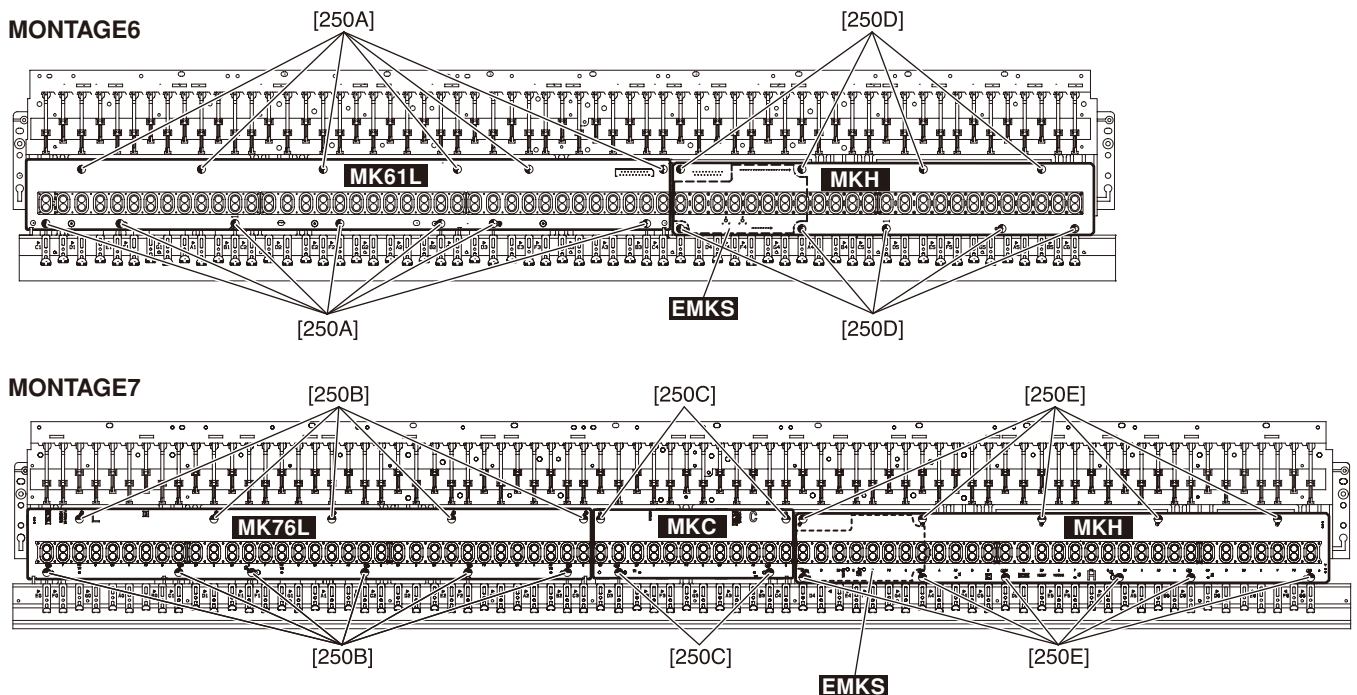

Fig. 20 (図 20)
21-2-4. Remove the thirteen (13) screws marked [250A] and disconnect the connector from the underside of the keyboard unit. The MK61L circuit board can then be removed. (Fig. 20, Photo 8)
21-2-4. [250A] のネジ 13 本を外し、鍵盤裏側からコネクタを外して、MK61L シートを外します。(図 20、写真 8)
- 21-3-4. Remove the eleven (11) screws marked [250B] and disconnect the connector from the underside of the keyboard unit. The MK76L circuit board can then be removed. (Fig. 20, Photo 9)
- 21-4-4. Remove the four (4) screws marked [250C] and disconnect the connector from the underside of the keyboard. The MKC circuit board can then be removed. (Fig. 20, Photo 9)
- 21-3-4. [250B] のネジ 11 本を外し、鍵盤裏側からコネクタを外して、MK76Lシートを外します。(図 20、写真 9)
- 21-4-4. [250C] のネジ 4 本を外し、鍵盤裏側からコネクタを外して、MKCシートを外します。(図 20、写真 9)
Remove the nine (9) screws marked [250D] and disconnect the connectors from the underside of the keyboard. The MKH circuit board can then be removed. (Fig. 20, Photo 8)
Remove the eleven (11) screws marked [250E] and disconnect the connector from the underside of the keyboard. The MKH circuit board can then be removed. (Fig. 20, Photo 9)
[250D] のネジ 9 本を外し、鍵盤裏側からコネクタを外して、MKH シートを外します。(図 20、写真 8)
[250E] のネジ 11 本を外し、鍵盤裏側からコネクタを外して、MKH シートを外します。(図 20、写真 9)